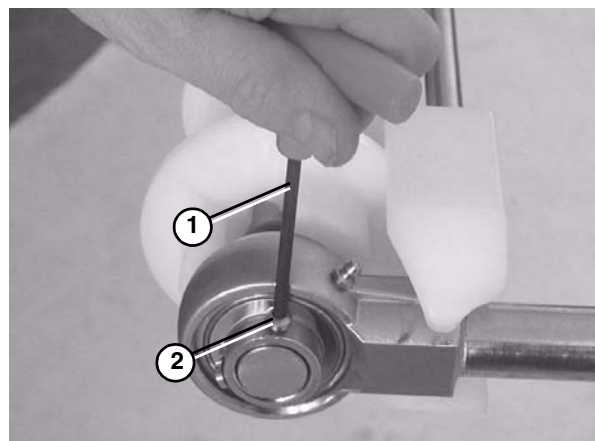

Figure 83
- Use a hex wrench (**Figure 83, item 1**) to tighten the bearing shaft fasteners (**Figure 83, item 2**) to 6 N•m (54 in•lbs). Check after 24 hours of conveyor use.